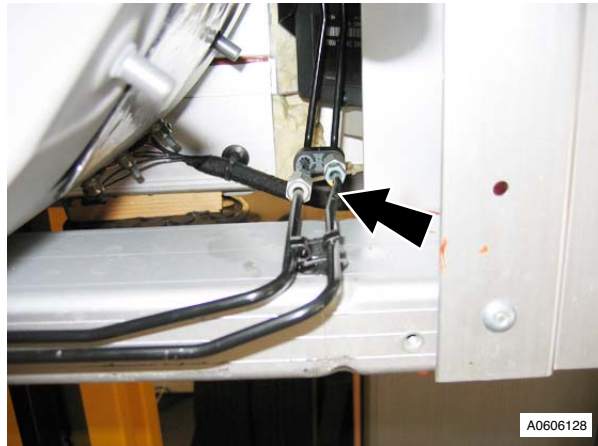

Fig. 1
12. Loosen and disconnect RH/LH rear brake tube union from front line connection (see Fig. 1).